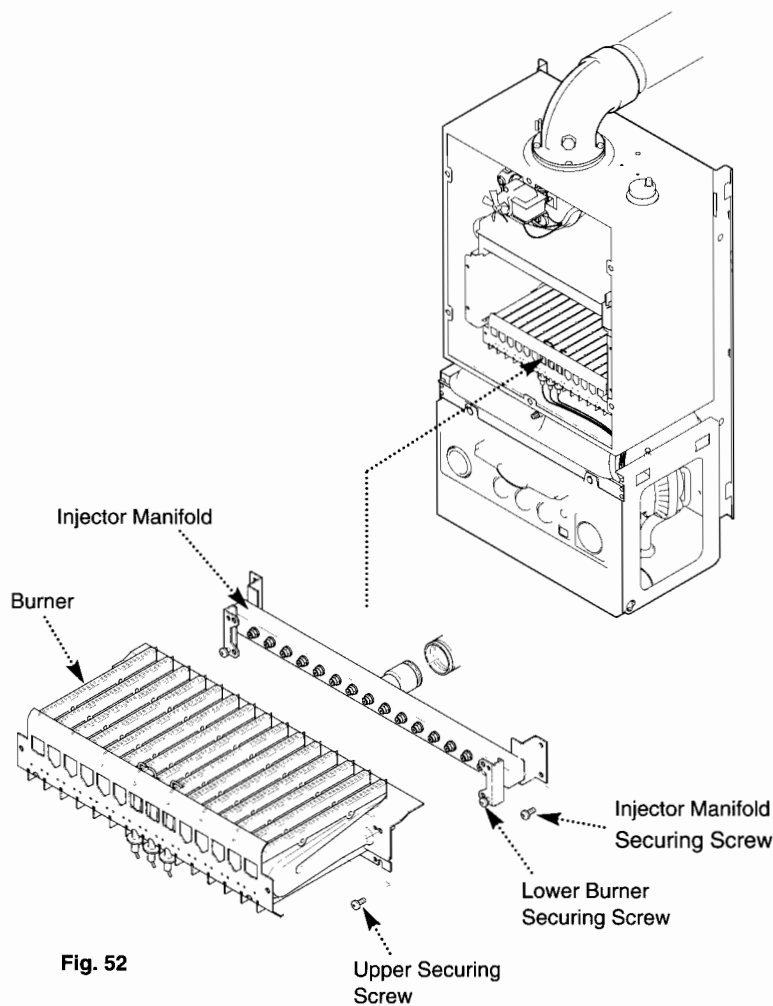

Fig. 52
2. Loosen the lower burner securing screws and remove the upper securing screws (Fig. 52).
3. Remove the burner (Fig. 52).
4. Remove the injector manifold securing screws and withdraw the manifold from the burner feed "O" ring joint (Fig. 52).
4. Remove the two screws securing the left and centre electrodes and withdraw them through the burner (Fig. 52).